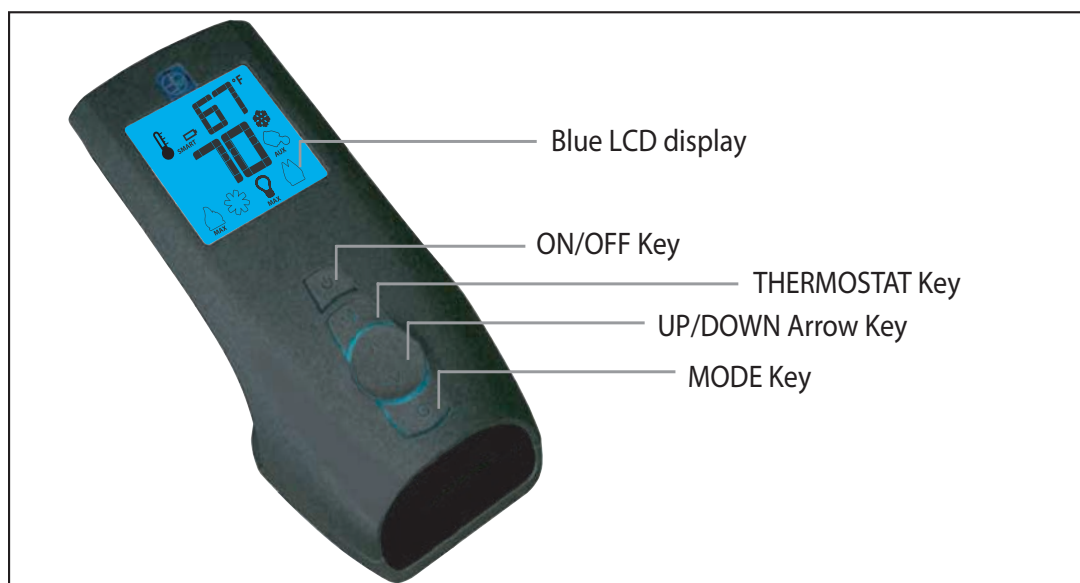
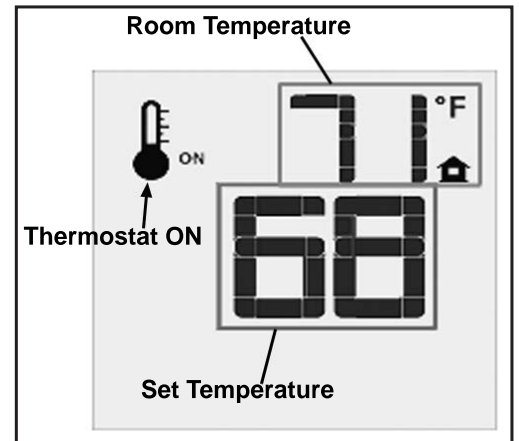
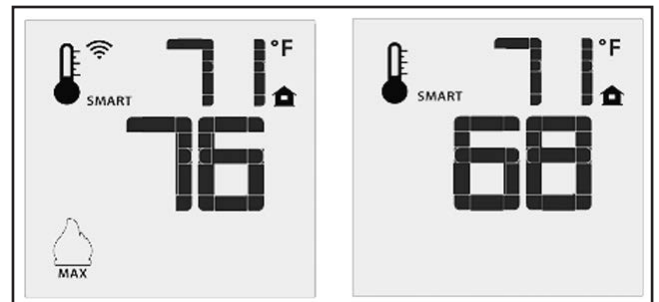
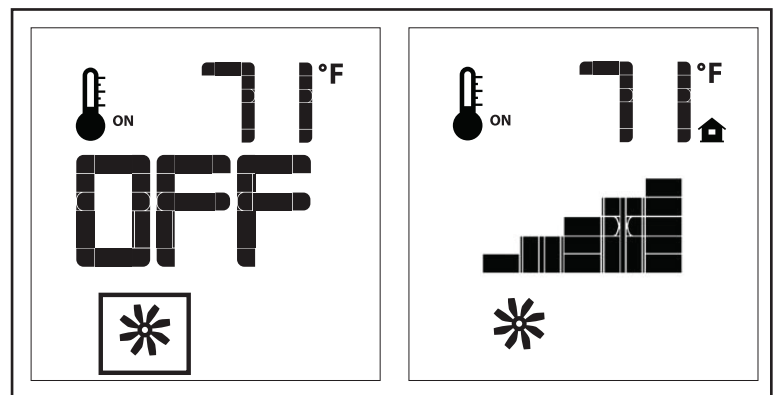

Figure 5: Proflame 2 Transmitter.
Figure 9: Remote Control Displays Set Temperature.
Figure 10: Remote Control's Smart Flame Function.
Figure 12: Fan Control
The Proflame 2 Transmitter is a remote control with a blue backlit LCD display. It uses a streamline design with a simple button layout and informative LCD readout (Figure 5). The Transmitter is powered by three (3) AAA type batteries. A Mode Key is provided to Index between the features and a Thermostat Key is used to turn on/off or index through Thermostat functions (Figure 5 & 6).
Press the ON/OFF Key on the Transmitter. The Transmitter LCD display will only show the room temperature and Icon (see Figure 9). A single “beep” from the IFC confirms reception of the command and both the pilot light (if the unit is not set to continuous pilot) and main burner will turn off.
The Remote Control can operate as a room thermostat. The thermostat can be set to a desired temperature to control the comfort level in a room. To activate this function, press the Thermostat Key (see Figure 5). The LCD display on the Transmitter will change to show that the room thermostat is “ON” and the set temperature is now displayed (see Figure 9). To adjust the set temperature, press the Up or Down Arrow Keys until the desired set temperature is displayed on the LCD screen of the Transmitter.
The Smart Thermostat function adjusts the flame height in accordance to the difference between the set point temperature and the actual room temperatures. As the room temperature gets closer to the set point the Smart Function will modulate the flame down. To activate this function, press the Thermostat Key (Figure 5) until the word “SMART” appears to the right of the temperature bulb graphic (Figure 10). To adjust the set temperature, press the Up or Down Arrow Keys until the desired set temperature is displayed on the LCD screen of the Transmitter.
The E30 comes with a convection fan that can be controlled with the Transmitter. The fan speed can be adjusted through six (6) speeds. To control the fan press the MODE key (Figure 5) to index to the fan control icon (Figure 12). Use the UP/DOWN arrow keys to turn on, off, or adjust the fan speed (Figure 12). A single beep from the IFC will confirm the command has been received.